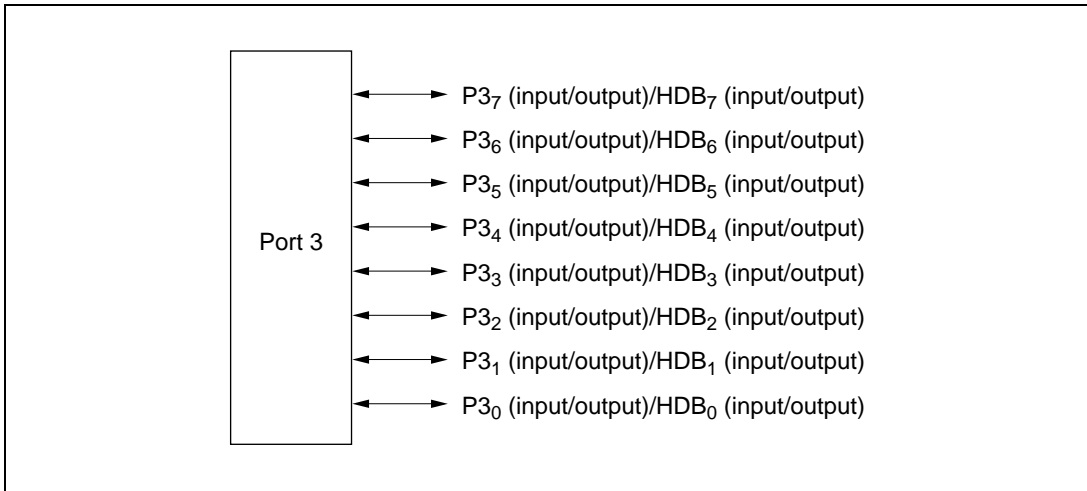

**Figure 7-10 Pin Functions in Modes 1 and 2 (Port 3)**
**Pin Functions in Modes 1 and 2:** In mode 1 (expanded mode with on-chip ROM disabled) and mode 2 (expanded mode with on-chip ROM enabled), port 3 is automatically used for the input/output pins of the data bus (D7 to D0). Figure 7-10 shows the pin functions in modes 1 and 2.